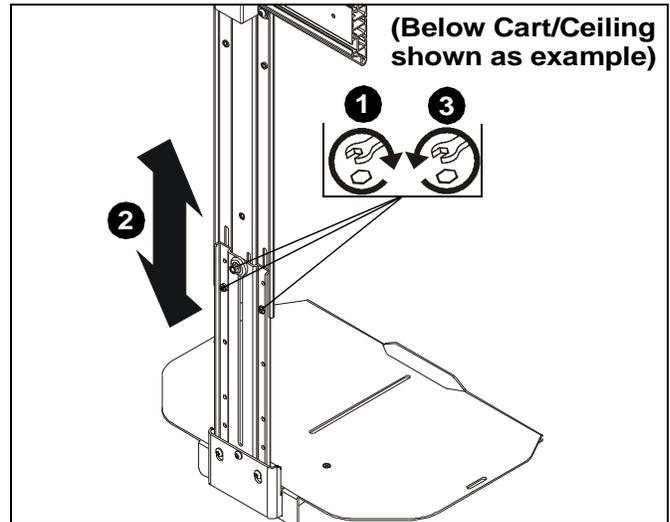

Figure 13
- 1. Loosen hardware used to attach main bracket (B) to upright bracket (A). (See Figure 13)
- 2. Adjust shelf height as desired. (See Figure 13)
- 3. Tighten hardware used to attached main bracket (B) to upright bracket (A). (See Figure 13)